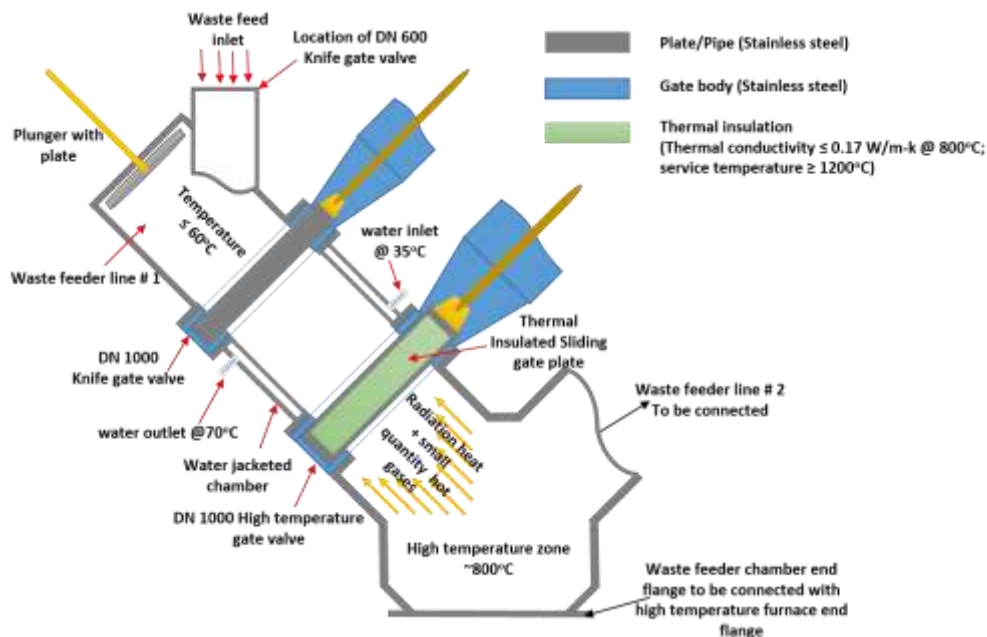
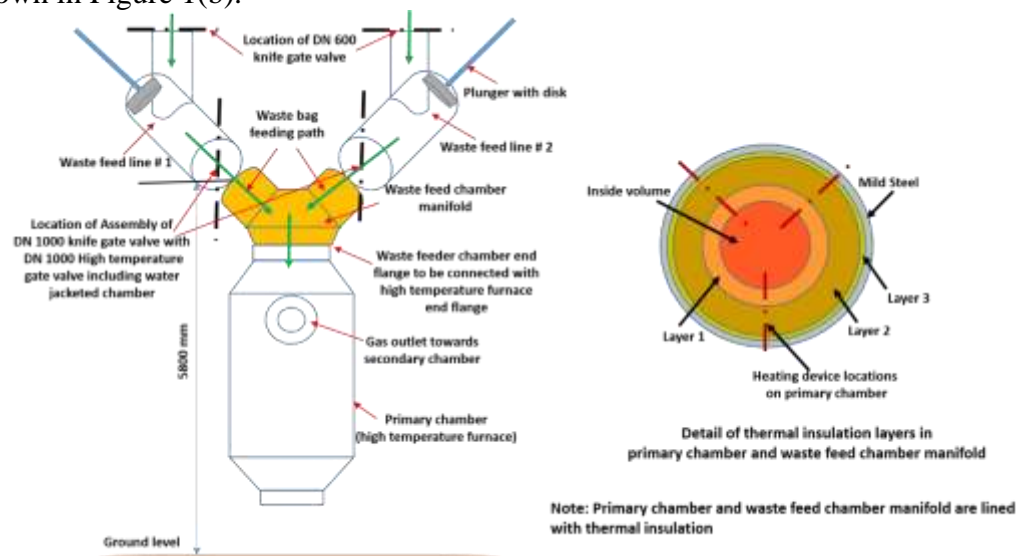

Fig. 01(a) Location of DN 600 and DN 1000 knife gate valves on waste feeder line # 1.
Figure 1(b): Schematic of Waste feeder lines and high temperature furnace (Primary chamber) assembly
- The location where DN 600 knife gate valves are to be connected is shown in Fig. 01(a).
1. The location where DN 1000 knife gate valves are to be connected is shown in Fig. 01(a). The approximate height at which these gate valves are to be assembled with water jacketed chamber is shown in Figure 1(b).